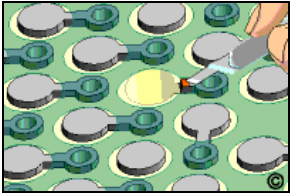

Figure 1: Remove the defective BGA pad and soldermask from the connecting circuit.
1. Remove the defective BGA pad and a short length of the connecting circuit, if any. (See Figure 1)
3. Scrape off any solder mask or coating from the connecting circuit and clean the area. (See Figure 1).